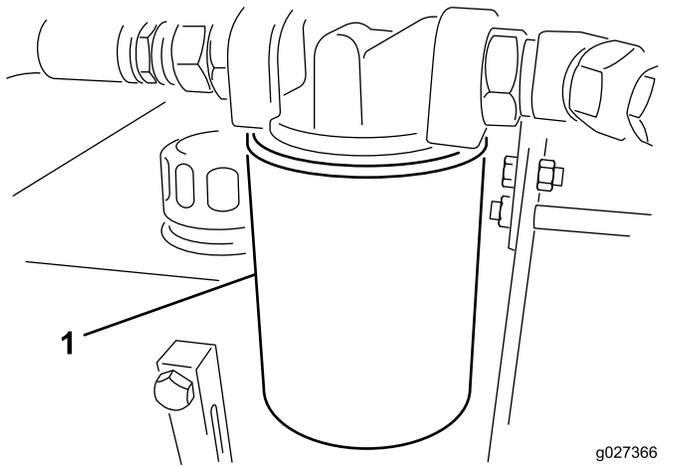

Figure 13
3. Place a drain pan under the filter and remove the filter (Figure 13).